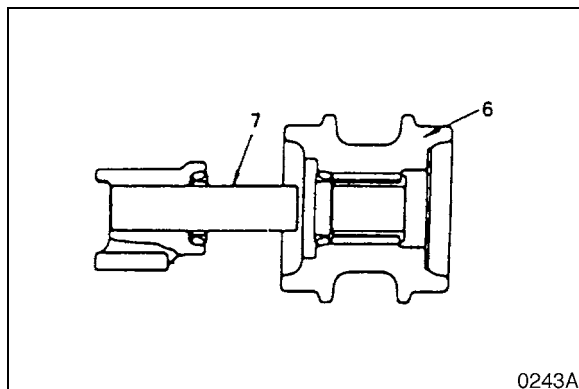

Figure 41
3. Separate the roller (6, Figure 41) from the axle (7).